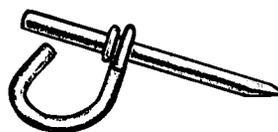

Fig. 2 - Drive Ring
- 1.04 The Drive Ring (Fig. 2) is intended for holding drop wire on wood or concrete surfaces. The drive ring is made of galvanized steel and it consists of a horse shoe section equipped with a nail. Installation is made by driving the nail portion into a wood surface or a D drive anchor.
- 3.01 Run drop wires to the terminal from the adjacent pole (Fig. 2), except where they distribute from a cable extension arm or from a span clamp. A drop wire from a span clamp should be run directly from the span clamp to the terminal when the span clamp is adjacent to the terminal.